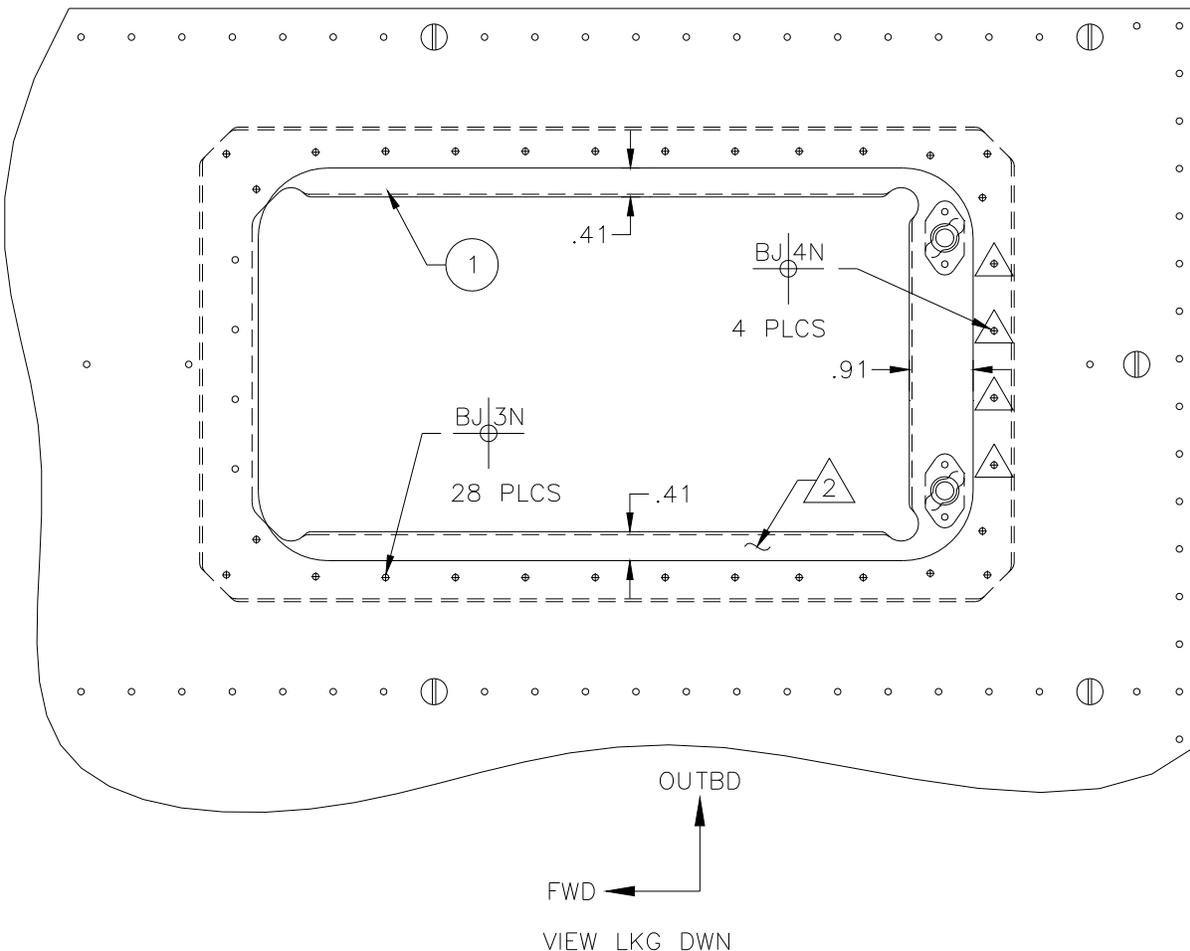

Figure 2
4. Position the Frame Assembly, Item 1, on the inner side of the cowling as shown. Drill all the existing holes from the cowling into the Frame Assembly. Drill all the holes from in the Frame Assembly into the cowling. Reference Figure 2.
5. Open all the rivet holes as required and rivet the Frame Assembly to the cowling as shown. Reference Figure 2.